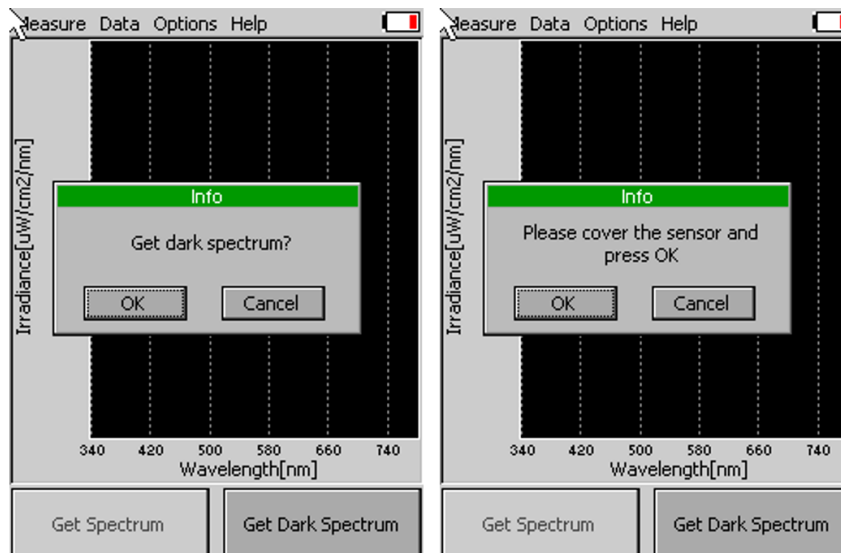

Fig. 3 Dark spectrum calibration - part 1.
- On the opening screen of the device select **Get Dark Spectrum** >press **OK** (Fig. 3)